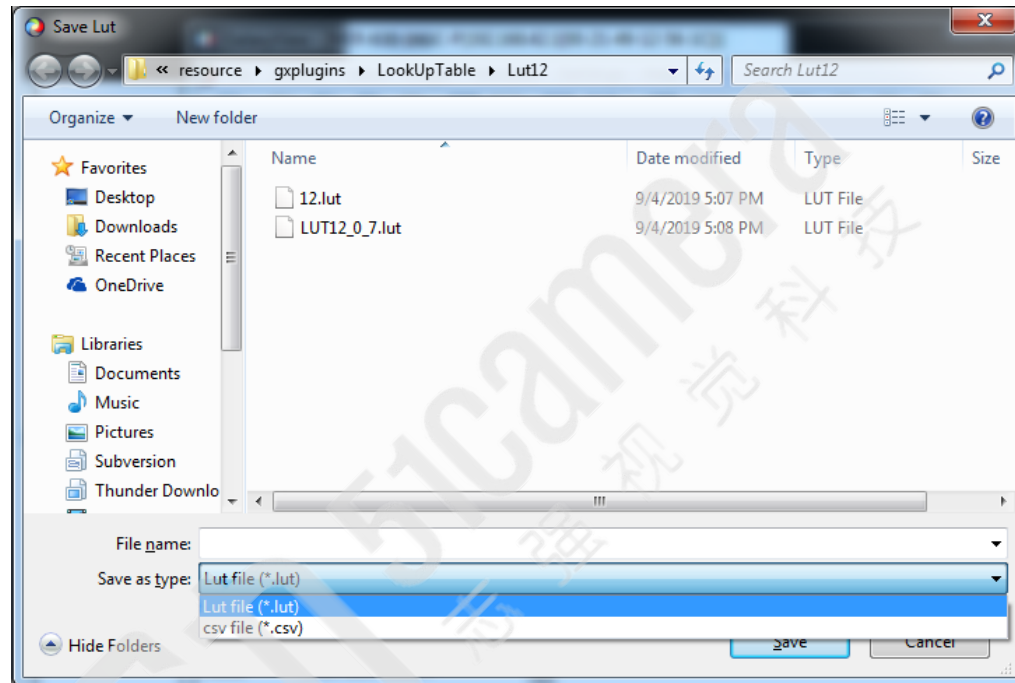

Figure 9-11 Save to file
1. When selecting "Save To File ", the current Lut data can be saved to the file. The saved file contains two formats: Lut and csv, as shown in Figure 9-11.